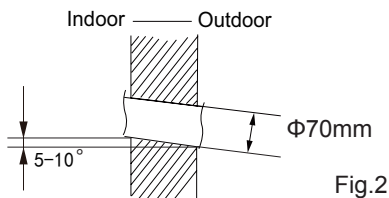

Fig.2
(2) Open a piping hole with the diameter of Φ70mm on the selected outlet pipe position. In order to drain smoothly, slant the piping hole on the wall slightly downward to the outdoor side with the gradient of 5-10°. (As show in Fig.2)